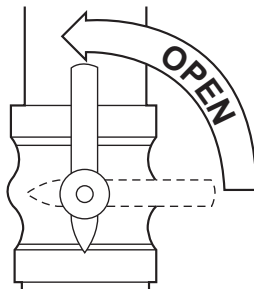

Fig. 14 – Open Valve
9. Open the external manual gas valve (see Fig. 14).